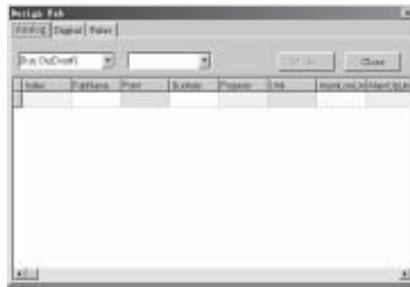

Fig. 4-10 FAB Defining Dialogue box
Step 1. Click **Monitor>Design FAB** or the **quick icon** , the system will display the FAB definition interface, as in Fig. 4-10.